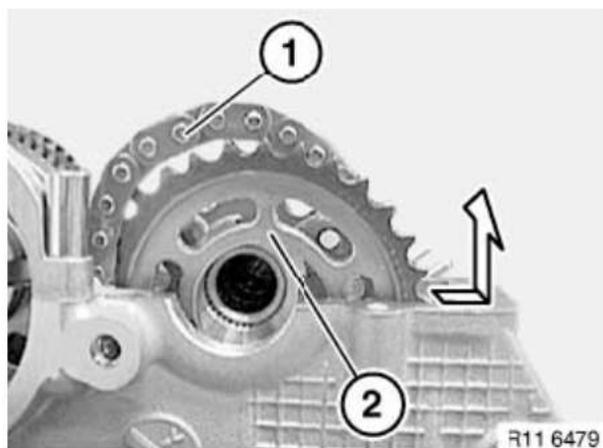

Figure 5-98
18. Remove camshaft sprocket (**Figure 5-98, (2)**) from chain (**Figure 5-98, (1)**) as shown by arrow.